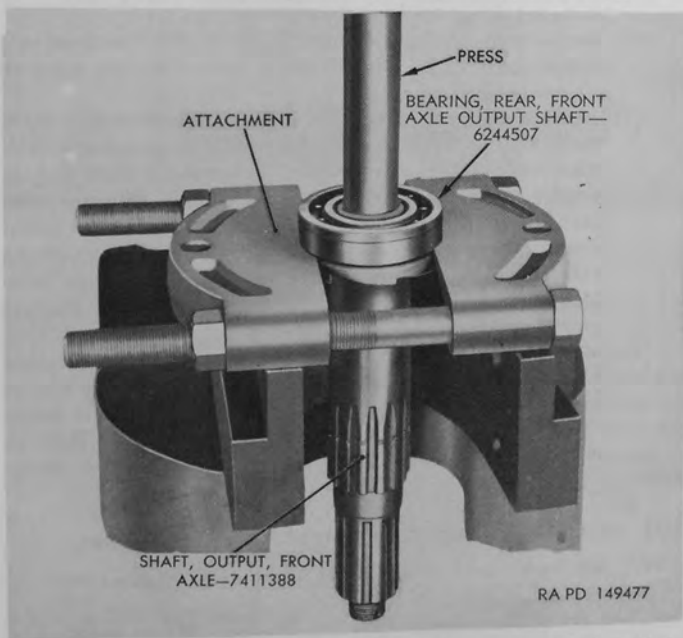

Figure 70. Removing rear bearing from front axle output shaft using attachment 41-A-345-328 (part of puller set 41-P-2905-60) and arbor press.
e. Assemble attachment 41-A-345-328 (part of puller set 41-P-2905-60) on output shaft and bearing assembly, and position this assembly in arbor press as shown in figure 70. Press against end of output shaft to remove front axle output shaft rear bearing (YY).